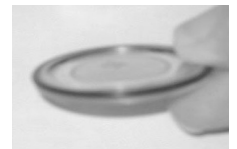

Fig. 113 - COVER O-RING
- Lightly lubricate a new Cover O-ring* with silicone grease and place it on the inner rim of the Battery Cover (Fig. 113). Ensure that it is evenly seated.